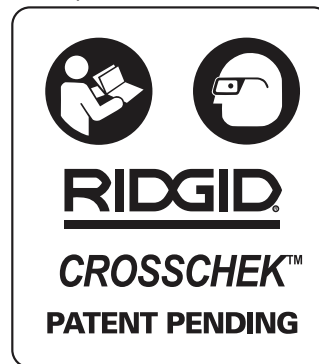

Figure 9 – Warning Label
- Presence and readability of the warning label (Figure 9).